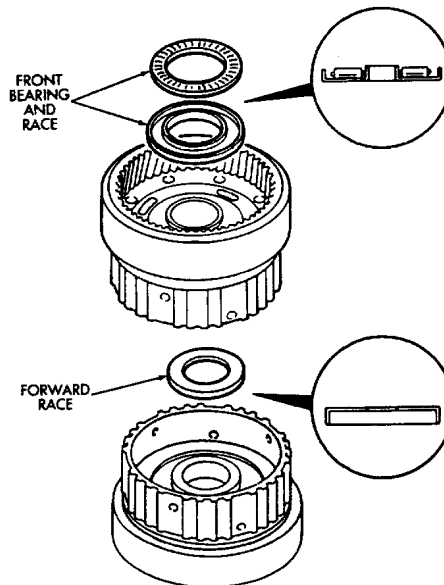

Fig. 4 Installing Front Planetary Front Bearing And Races
(5) Install front race and bearing and forward race in ring gear (Fig. 4).
(6) Set planetary gear assembly aside for final assembly.
(3) Remove thrust washer from drum (Fig. 4).